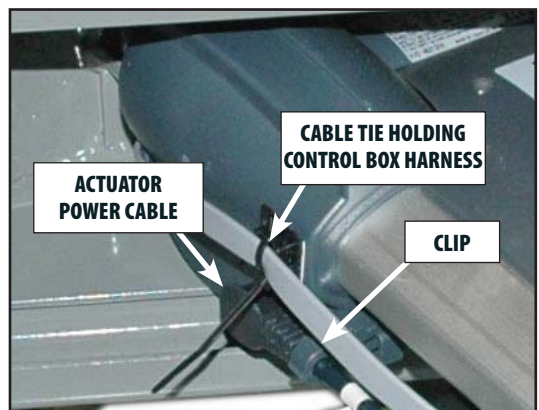

FIGURE 6.16
- Using small Diagonal Cutters, cut the Cable Tie securing the Control Box Power Harness to the Actuator. Refer to **Figure 6.16**.
- Disconnect the Actuator Power Cable and clip from the Control Box to the Actuator by pulling up on the Cable and Clip. Refer to **Figure 6.16**.